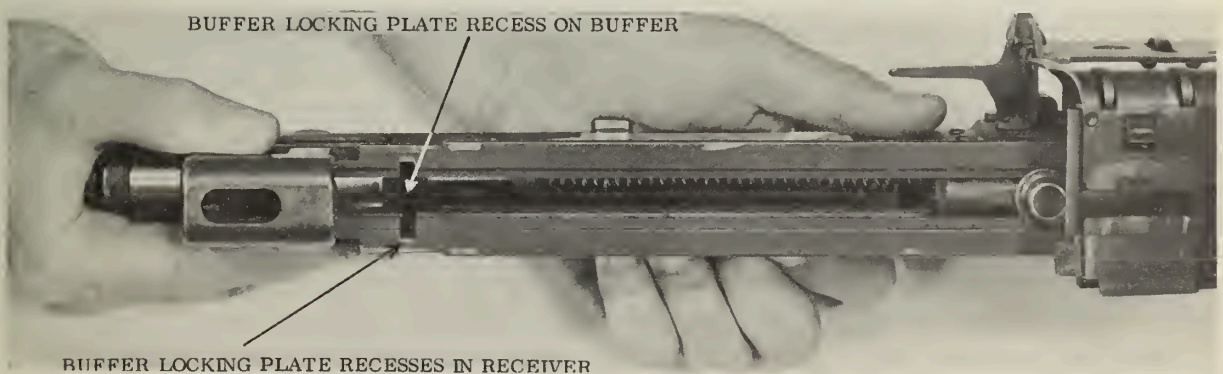

Figure 23. --Replacing the Buffer Locking Plate.
(2) Push forward on the buffer until the buffer locking plate recess in the buffer is aligned with the buffer locking plate recess in the receiver. Replace the buffer locking plate by inserting it into the recesses in the receiver and buffer. (See fig. 23.)